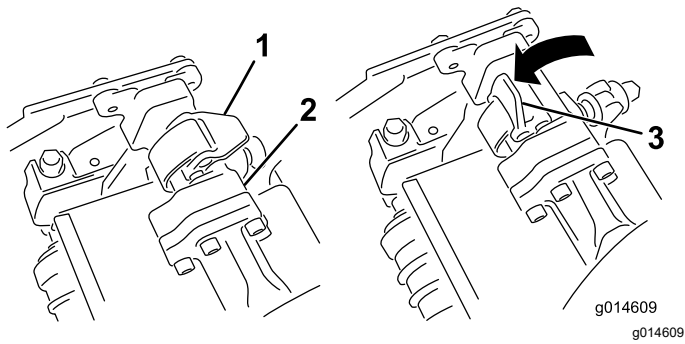
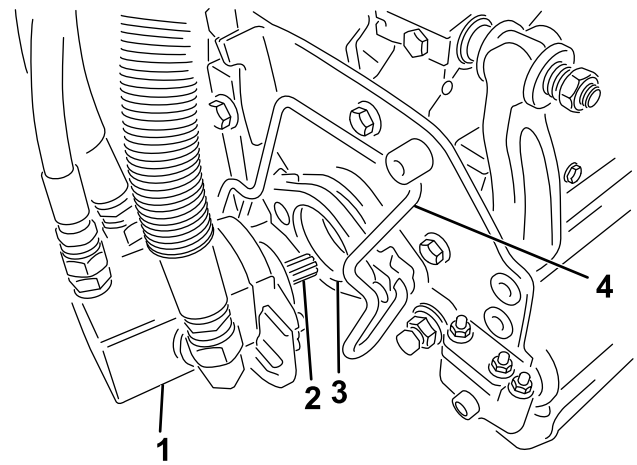

Figure 46
Figure 47
3. With the latches on the suspension-arm bar pointing up (i.e., open) (Figure 46), push the suspension arm down so that the bar fits over the bar across the top of the cutting unit (Figure 47).
- 4. Close the latches down and around the cutting-unit bar and lock them in place (Figure 46).
4. Open the latches on the suspension-arm bar of the cutting unit you are removing (Figure 46).